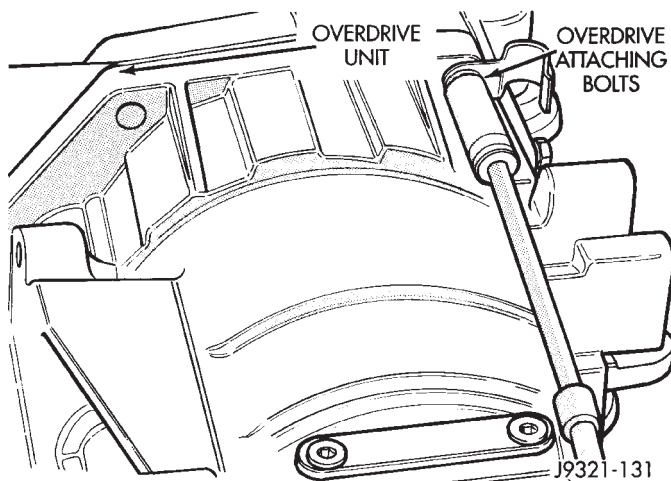

Fig. 1 Removing Overdrive Unit Attaching Bolts
- (1) Remove torque converter, if not previously removed.
- (2) Clean transmission exterior with steam gun or solvent. Wear safety goggles while cleaning transmission.
- (3) Remove shift and throttle levers from shaft of valve body manual lever.
- (4) Remove bolts attaching overdrive unit to transmission case (Fig. 1).